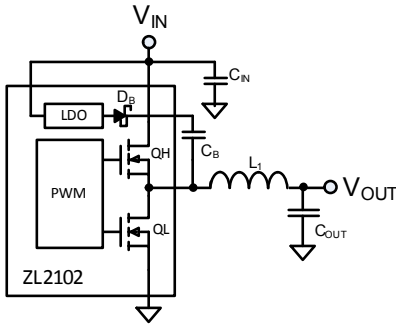

FIGURE 8. STEP DOWN CONVERTER
- 9. Refer to Safe Operating Area in Figure 8 and thermal design guidelines in AN2010.
The ZL2102 operates as a voltage-mode, synchronous buck converter with a selectable constant frequency pulse width modulator (PWM) control scheme. The ZL2102 integrates dual low $r_{DS(ON)}$ synchronous MOSFETs and a high-side driver to minimize the circuit footprint. Figure 8 illustrates the basic synchronous buck converter topology showing the primary power train components. This converter is also called a step-down converter, as the output voltage must always be lower than the input voltage.